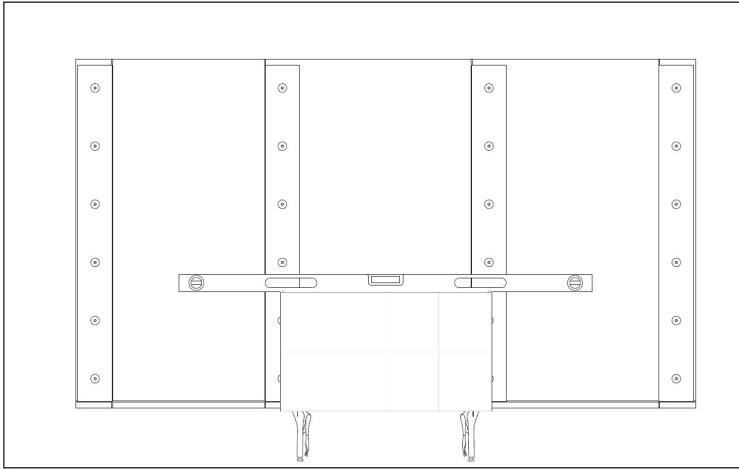

Figure 5: Mark Mounting Holes in First Panel
3. Mark the mounting holes in the panel for pre-drilling. Refer to **Figure 5**.
- a. Slide the panel positioning jigs into the bottom of the mounting tubes with the jigs on the inside edge of the tube. Refer to **Figure 5**. The panel will sit on the punched edge of the positioning jig, using the bottom of the tube to set the location. Refer to **Figure 6** and **Figure 7**.